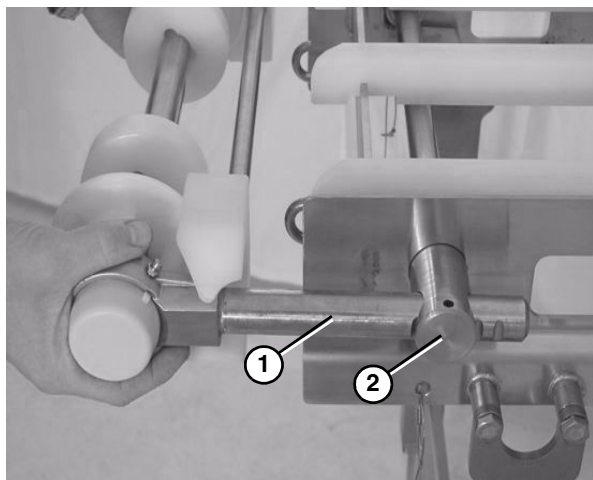

Figure 19
3. Slide the bearing shafts (**Figure 19, item 1**) into the holes in the tip up shaft (**Figure 19, item 2**).